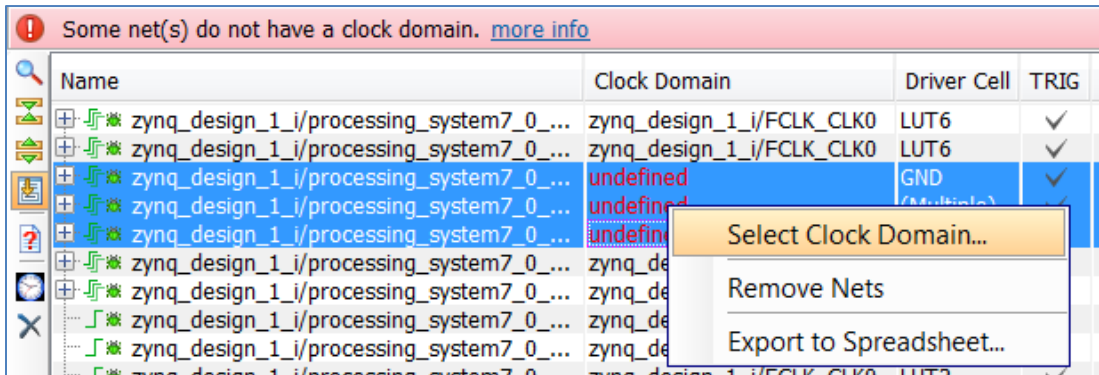

Figure 23: Set Up Debug: Select Clock Domain
- Highlight the three signals that don't have the clock domain association, then right-click and select **Select Clock Domain** (FIGURE 23).